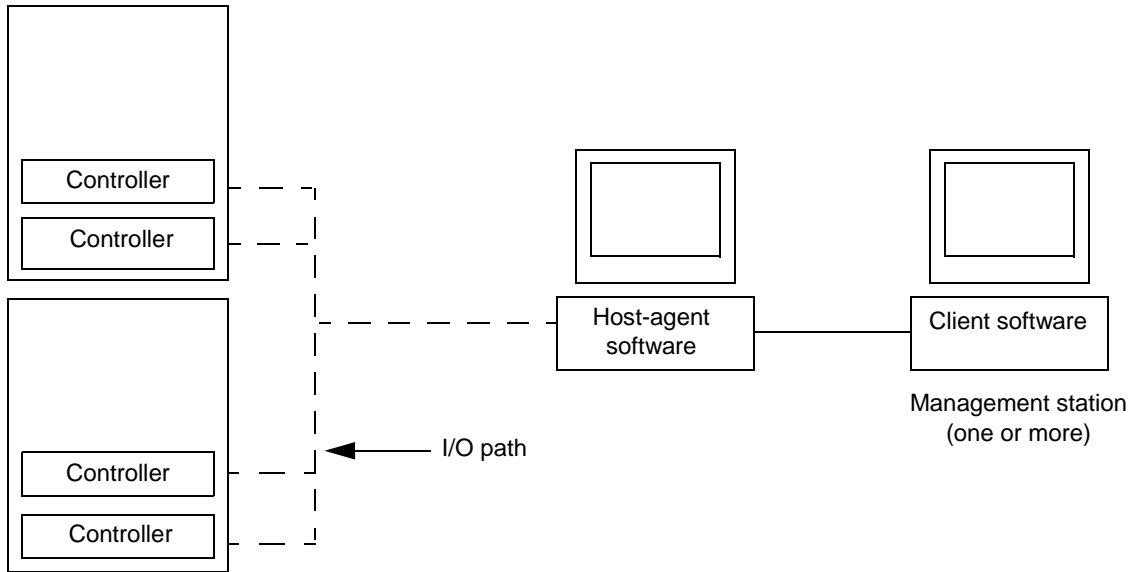
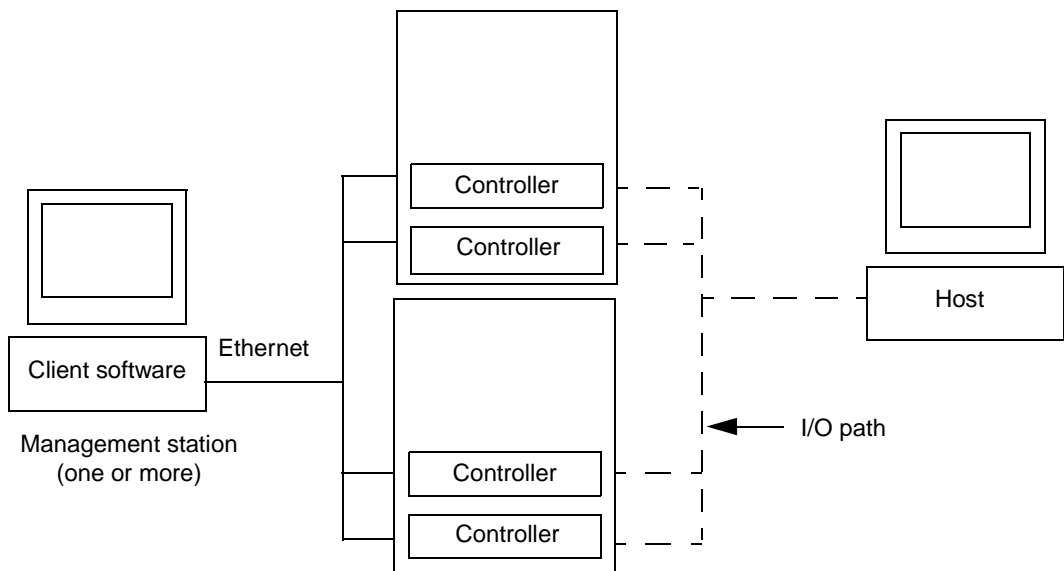

Figure 4. Host-agent managed storage subsystems
Figure 5. Directly managed storage subsystems
- Fibre Channel (FC) and Ethernet interface cables and cable straps
- 5 Install additional hardware, based on the method of storage subsystem management. You can manage the storage subsystems using the host-agent method, as shown in Figure 4 on page 7 or the direct manage method, as shown in Figure 5 on page 7.